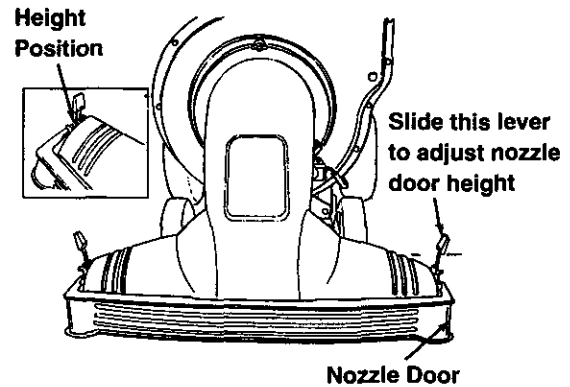

Figure 10
- The nozzle door height adjustment levers have five position settings and are found each side of the nozzle door. See Figure 10. The nozzle door height should be adjusted according to the conditions.
- Slide the height adjustment lever forward or backward for adjusting the nozzle door upwards or downwards. See Figure 10.